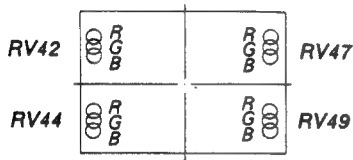

Fig. 1-25.
5. Adjust RV42, RV44 and RV47, RV49 on the DC board to coincide with the R, G and B dots as shown in Fig. 1-25.